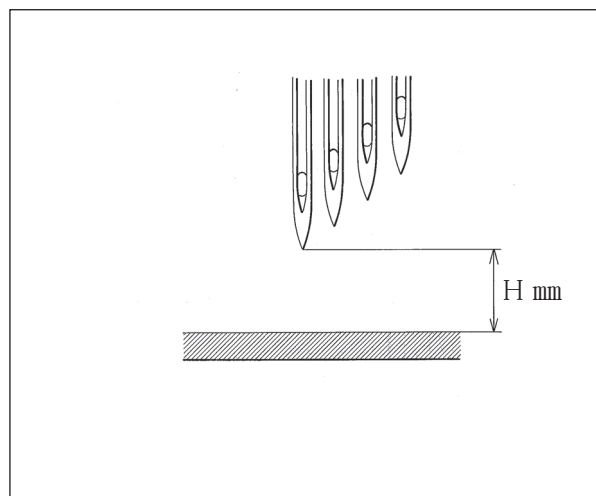

Fig. 6-17
- (1) Set the needle into the left needle installation hole of the needle clamp.
- (2) Remove the seal plug ①.
- (3) Loosen the screw ② and adjust the needle bar ③ in the vertical direction so that the tip of the left needle is the height “H” given in the table 7 from the stitch plate top surface.(Fig.6-17)